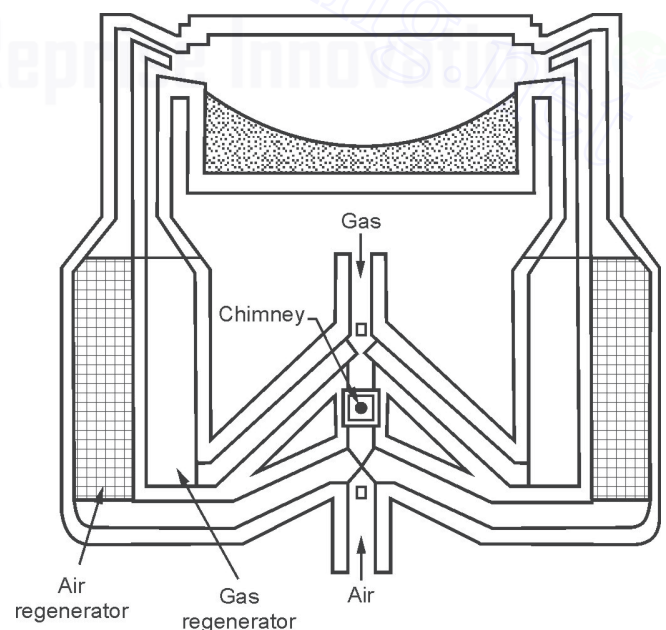

Fig. 4.9 Regenerator
- Also long periods of reversal result in lower average temperature of preheat and consequently reduce fuel economy. (Refer Fig. 4.9).